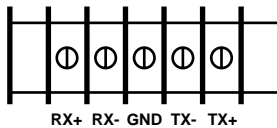

Figure 4-6. Terminal Block.
1. Locate the terminal block on the back of the unit. It should look like **Figure 4-6**.